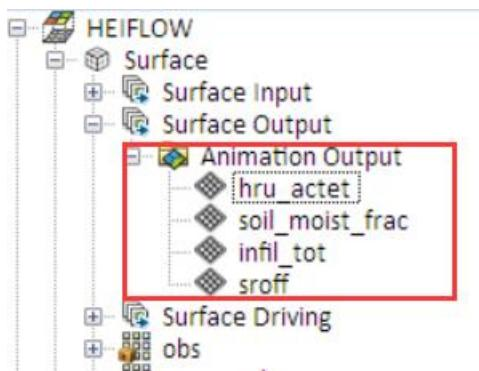

Figure 8-13. Simulated variables contained in the animation output of surface water.
- 1) In the Project Explorer, right click on “Animation Output” item, and select Load Variables. Four variables are then loaded as shown in Figure 8-13.